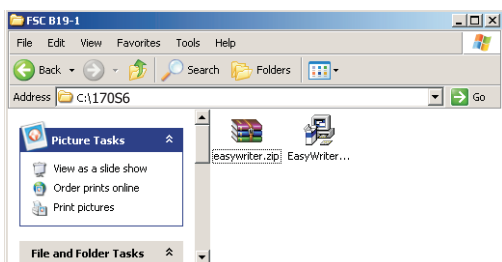

Fig. 3
- Step 1 : Make a folder in your PC as shown in Fig. 3.
- Step 2 : Copy the Software Easywriter.zip into your folder as shown in Fig.3.
- Step 3 : Unzip Easywriter.zip into your folder as shown in Fig. 3.